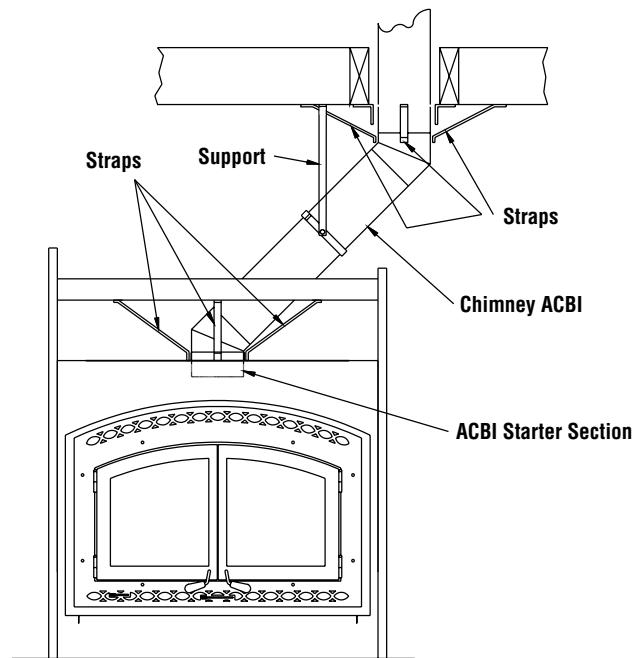

Figure 28
1. Install the first elbow. Turn it in the required direction. To lock it in place, turn 1/8 of a turn. Fasten the straps attached to the elbow to the surrounding frame, using nails or drywall screws (**Figure 28**).